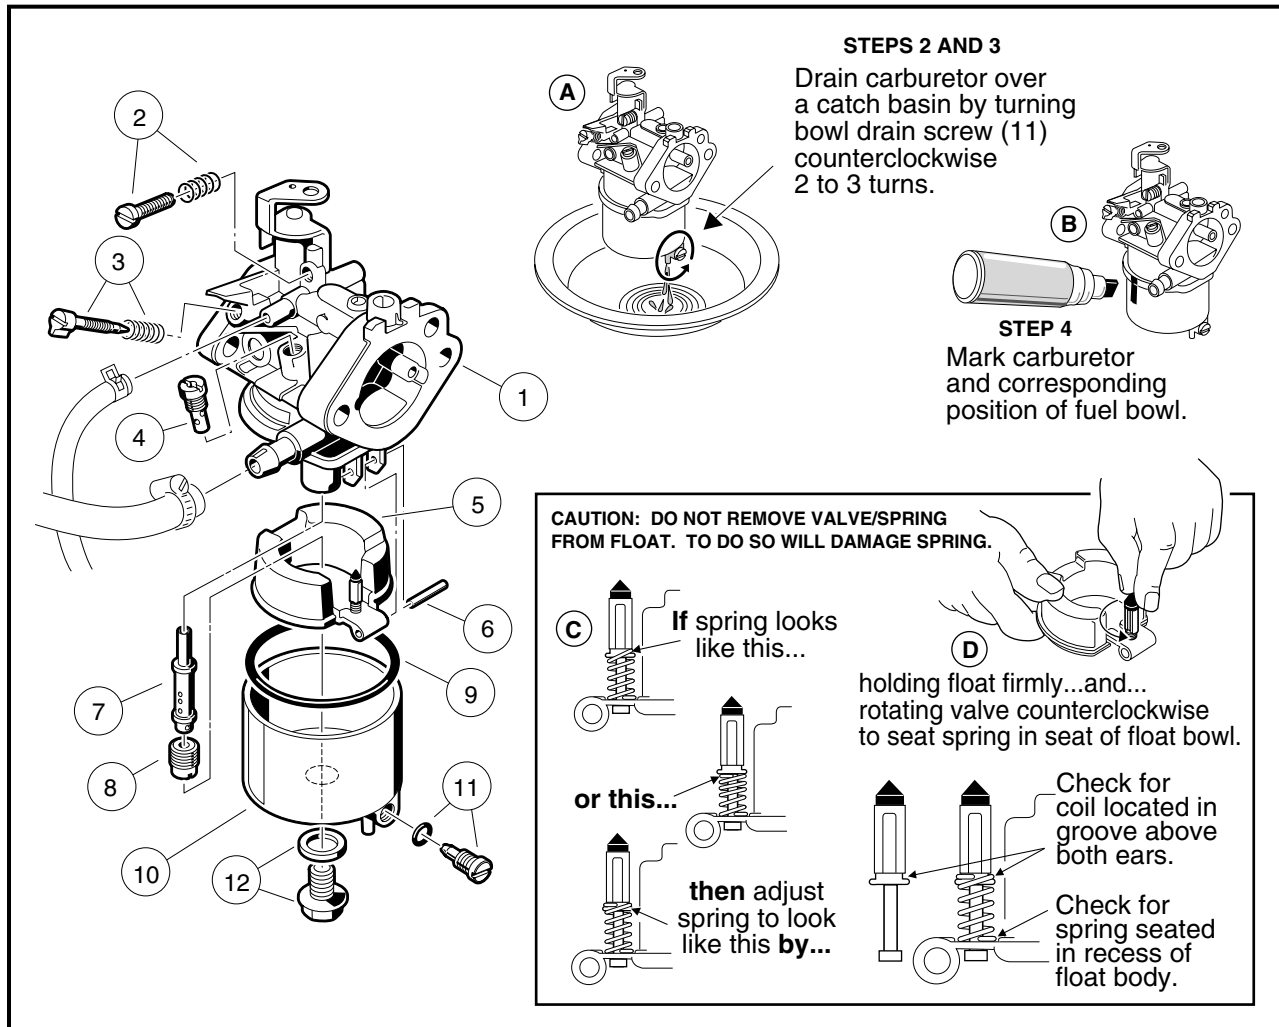

Figure 14-8 Changing the Main Jet
2. Position the carburetor with the drain screw (11) over a catch basin (**Figure 14-8, Page 14-9**).
3. Turn the carburetor bowl drain screw counterclockwise two or three turns and drain all the fuel from the bowl into the catch basin (**Figure 14-8, Page 14-9**). Tighten the drain screw to 10 in-lb (1.1 N·m). Return fuel to the gas tank or dispose of properly.
4. Mark the body of the carburetor and the carburetor fuel bowl with an indelible ink marker so that, after removal, the bowl can be installed again in the same position (**Figure 14-8, Page 14-9**).
5. Remove the carburetor fuel bowl retaining screw and washer (12), then remove the fuel bowl (10) and clean it with a nonflammable solvent (**Figure 14-8, Page 14-9**). See following **NOTE**.
**NOTE:** Make sure the fuel bowl gasket (9) remains properly seated in the carburetor body when the fuel bowl is removed (**Figure 14-8, Page 14-9**).
6. Remove the main jet (8) from the carburetor body and discard it (**Figure 14-8, Page 14-9**).
**NOTE:** Make sure the fuel nozzle (7) does not fall out of the carburetor body after removal of the main jet. This is best accomplished by positioning the carburetor upside down during main jet removal (**Figure 14-8, Page 14-9**).
**NOTE:** Inspect the main jet nozzle (7), and pilot jet (4) to ensure they are free from contamination. Replace any part that is clogged with contamination. Replace the float if it is damaged, or if the float valve is damaged or worn. Examine the float valve/spring assembly to make sure the spring is installed correctly (**Figure 14-8, Page 14-9**).